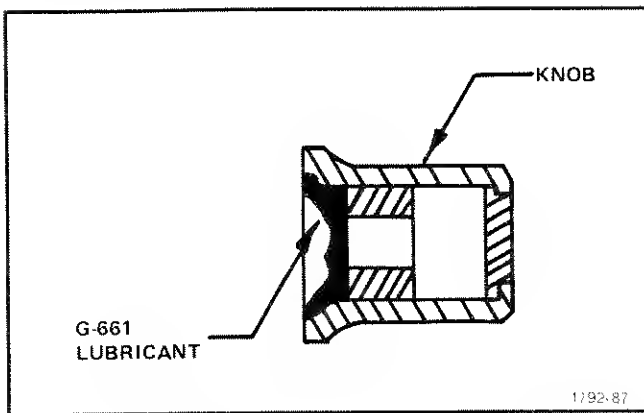

Fig. 5-34. Lubrication of FOCUS and INTENSITY control knobs.
29. Install the FOCUS and INTENSITY knobs (see Fig. 5-34)
1. Apply G-661 lubricant to both knobs as shown in Fig. 5-34.